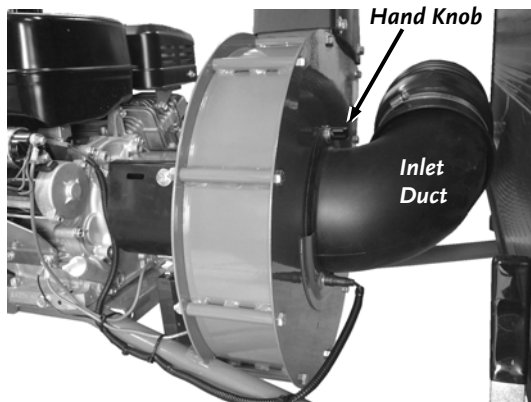

Figure 46
2. Remove the Inlet Duct from the Impeller Housing by unscrewing the Hand Knob and sliding the Duct from the Housing Lip (**Figure 46**).